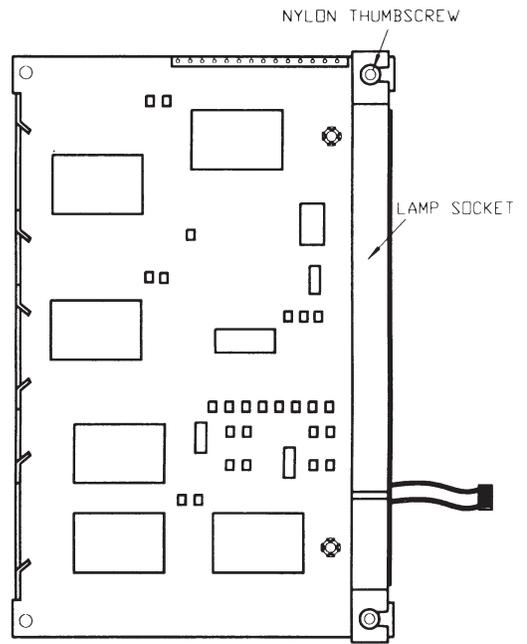

FIGURE 3. SOCKET PLACEMENT
8. Place the new lamp socket supplied with the kit over the mounting studs and into the metal socket housing located on the LCD. Make sure the lamp opening in the socket is facing the center of the LCD and the wires are exiting the back of the socket (see Figure 3).